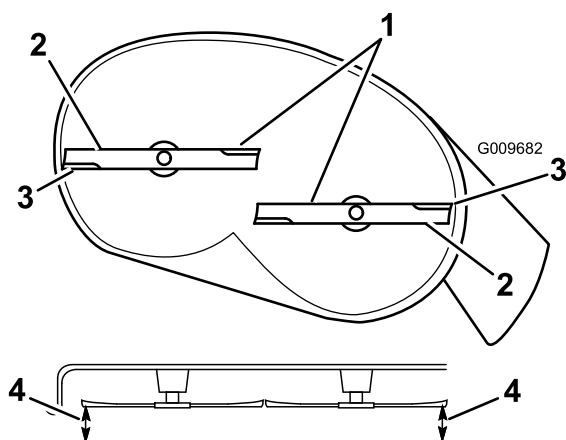
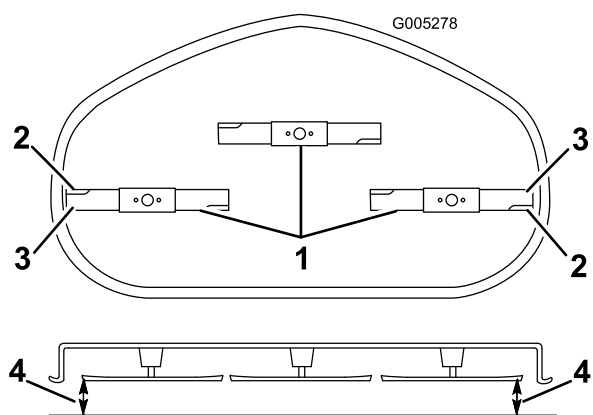

Figure 50
Figure 51
4. Carefully rotate the blade(s) so that they are all side to side (Figure 50 and Figure 51).
5. Measure between the outside cutting edges and the flat surface (Figure 50).